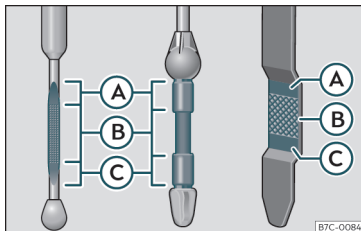

Fig. 248 Engine oil dipstick.
- Then pull it out once more and check the oil level >>> Fig. 248. Top up with engine oil if necessary.
If the oil level is above area >>> **Fig. 248 (A)**, do not start the engine. This could result in damage to the engine and catalytic converter. Contact a specialised workshop.
The oil level must never be above zone >>> **Fig. 248 (A)**. Otherwise oil can be drawn in through the crankcase breather and leak into the atmosphere via the exhaust system.